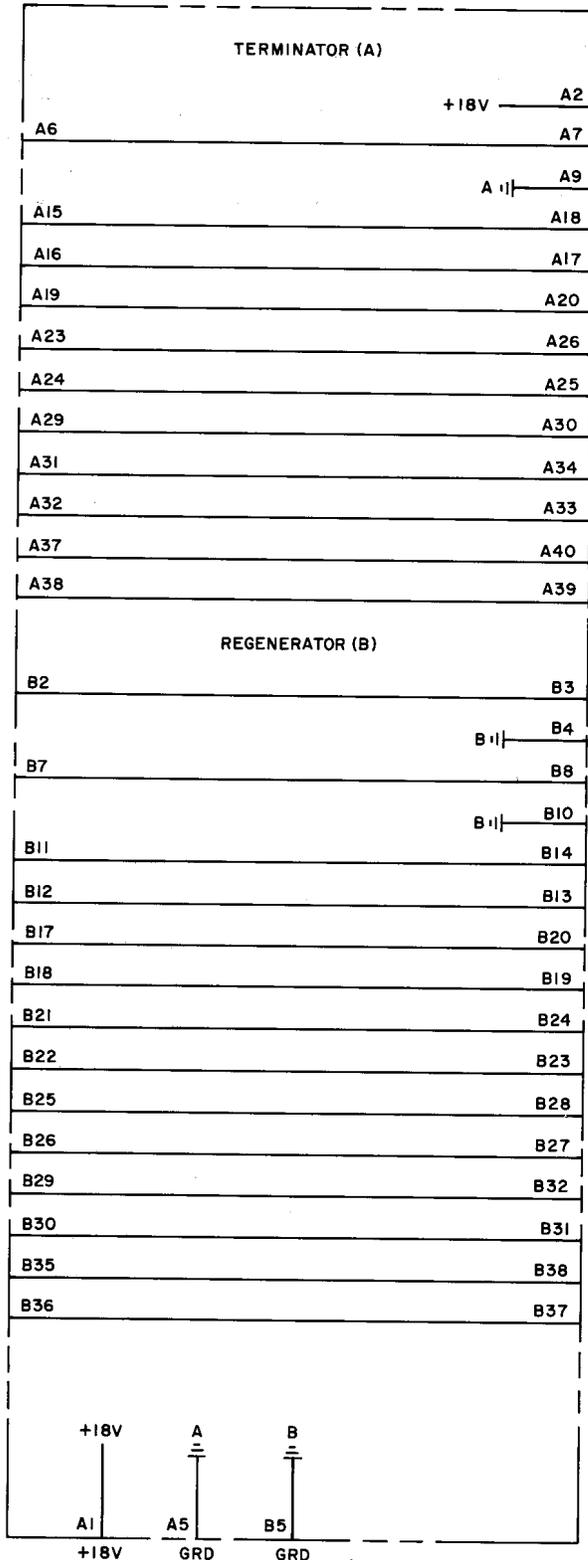

Fig. 10—Circuit Pack CU 1 (Terminator-Regenerator) Board
**3.25** Remove the circuit pack retaining bar from the "G" nest. Use the extracting tool and carefully remove the CU 1 circuit pack in location G01. Observe that the board end is marked "REGENERATOR." (See Fig. 10.) If the board is marked "TERMINATOR," remove the small